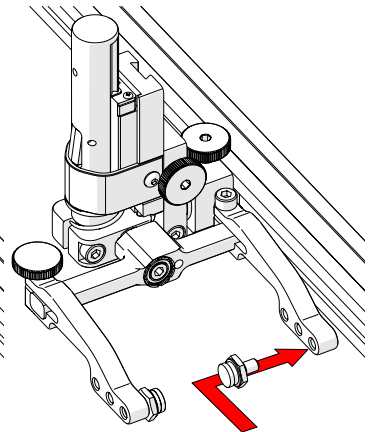

Fig. 114 - Place buttons
3. Position the pivot buttons where necessary (Fig. 114). When a narrow scanning footprint is required, use the pivot button holes closest to the yoke.